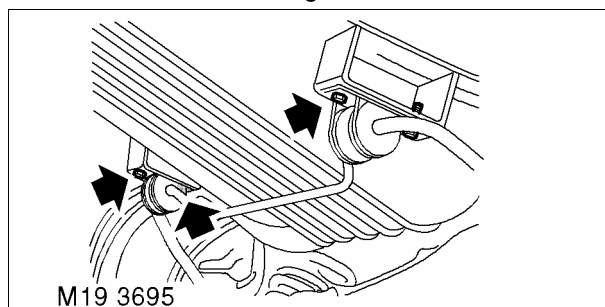

Fig. 7
- 11 Remove rear anti-roll bar bracket securing nuts and bolts. Allow bar to swing down clear of fuel tank. Fig. 7.